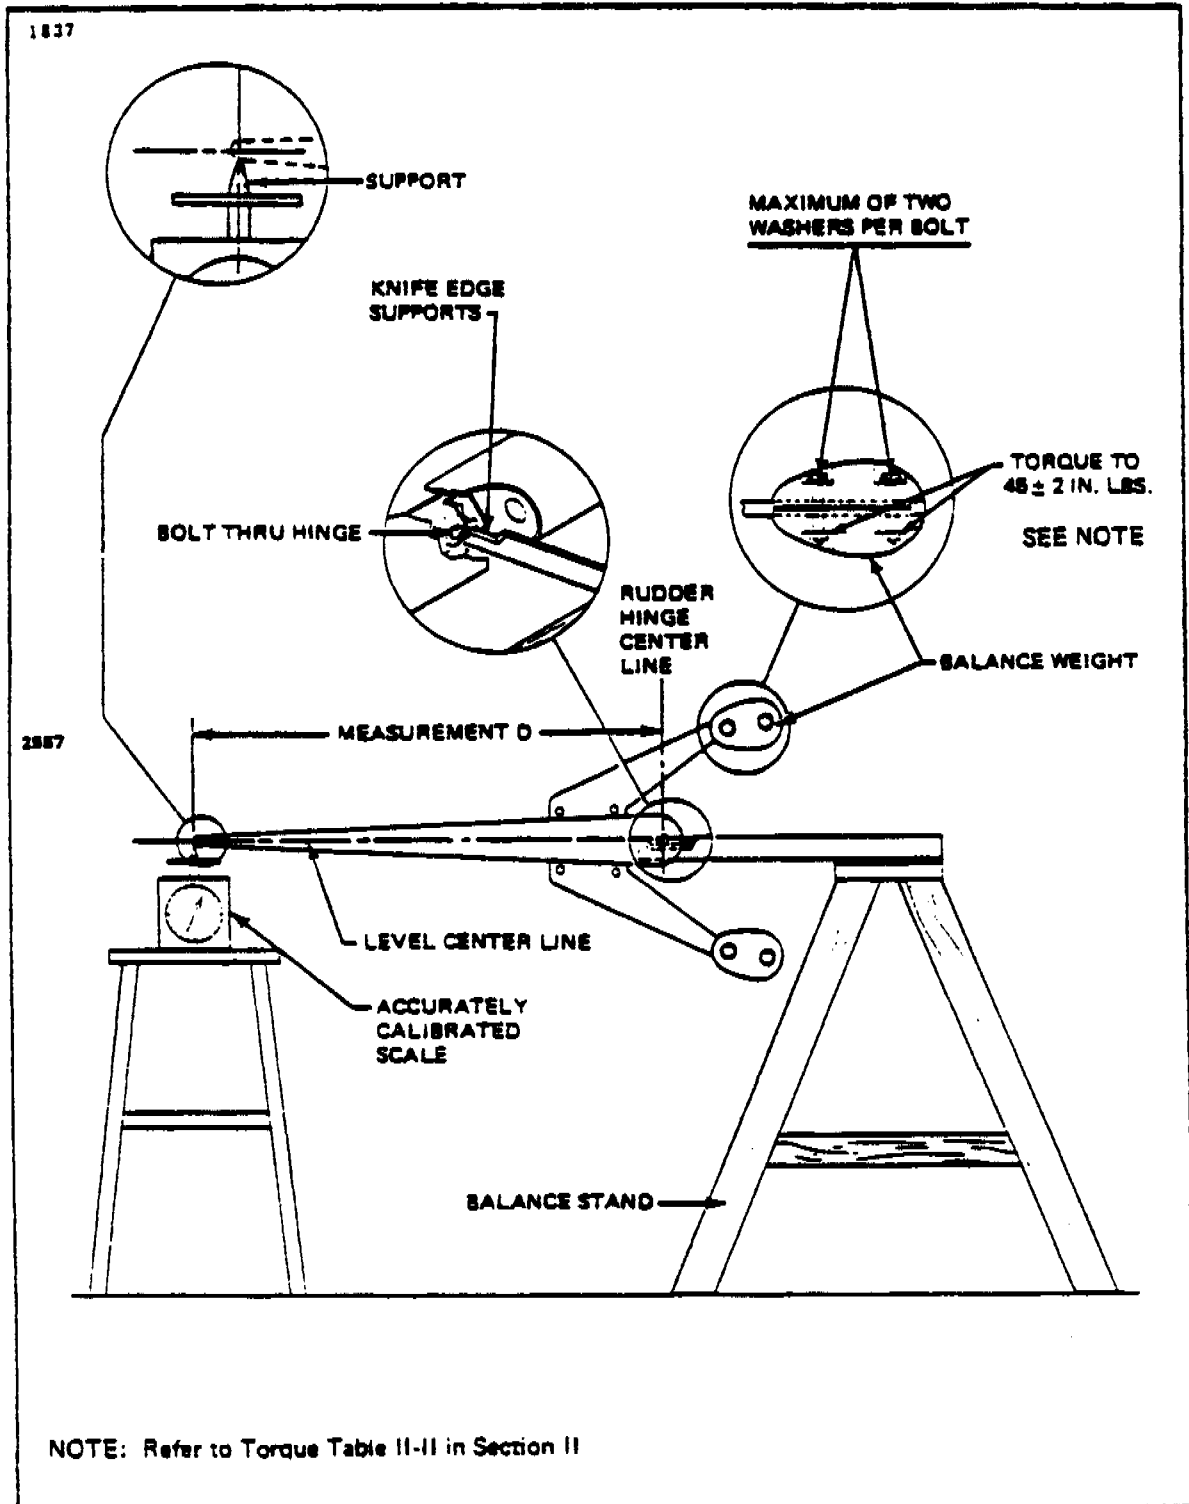

FIGURE 4-7c. CHECKING AND BALANCING RUDDER
4-51. Checking And Balancing Rudder. (Refer to Figure 4-7c.) The rudder must be checked to assure it is properly balanced whenever it has been repaired, repainted, or altered in any manner. The balancing requirement of the rudder must be checked with the complete assembly removed from the airplane.
- b. Insert bolts in the two end hinges and place the complete rudder assembly on a suitable balance stand, as shown in Figure 4-7c.
- c. Position an accurately calibrated scale below the trailing edge of the rudder, as shown in Figure 4-7c.
- e. Measure the distance (in inches) between the point at which the support on the scale contacts the rudder surface and the centerline of the rudder hinge. This is Measurement D on Figure 4-7c.
A rudder which is overly trailing edge heavy may be balanced by adding additional weight in the form of AN960-10 washers under the heads of the balance weight attachment bolts. A maximum of two washers per bolt along with longer bolts to accept the added washers is allowed. The washers must be spaced evenly on both balance weights. (Refer to Figure 4-7c.)